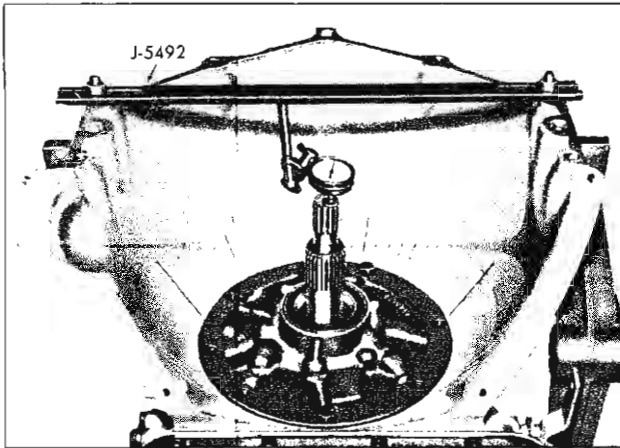

Fig. 37PG—Checking End Play for Proper Thrust Washer Selection
- a. Mount a dial indicator so that plunger of indicator is resting on end of the input shaft. J-5492 may be used to support the dial indicator as shown in Figure 37PG. Zero the indicator.